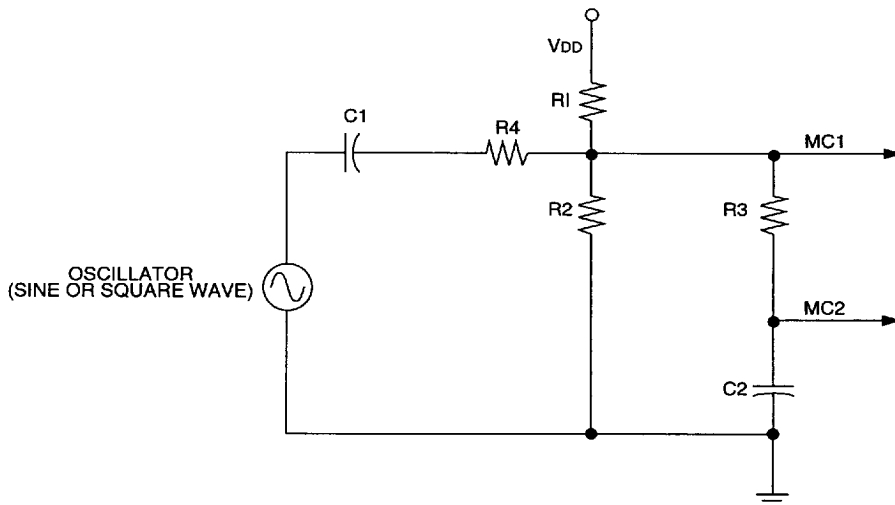

Figure 33. External Network for MC1 and MC2
2. Duty cycle for a sine wave is defined as the percentage of time during each clock cycle that the voltage on MC1 exceeds the voltage on MC2. For 26 MHz operation, the input clock must be divided by 2 internally by setting the MCSEL bit of the Test Control Register. If a bias circuit that adjusts the voltage on MC2 to equal the average voltage on MC1 (see Figure 33) is used, then a 45/55 or a 55/45 duty cycle on the external oscillator is acceptable for 13 MHz operation.